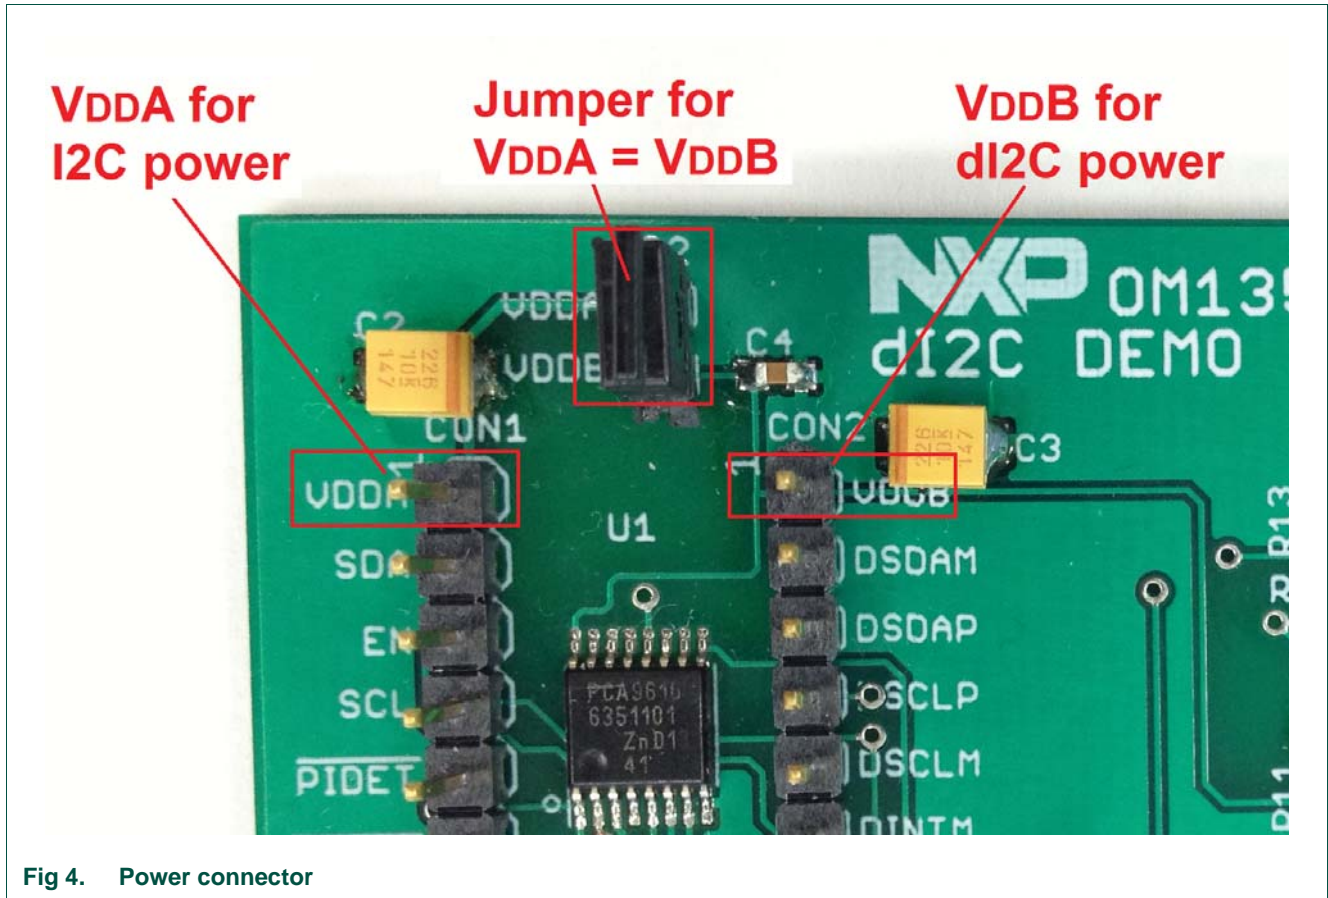

Fig 4. Power connector
- Using Fm+ Development Board (Fm+ DB): There is no direct connector to the Fm+ DB. The dI2C demo board can draw the power from an Fm+ DB using either 3.3 V headers (CN21) or 5 V headers (CN22) to the VDDA of CON1 on the dI2C demo board. VDDDB can use the same power as VDDA by connecting JP2, or using jumper wire from CN21 or CN22 of Fm+ DB (see Figure 4).